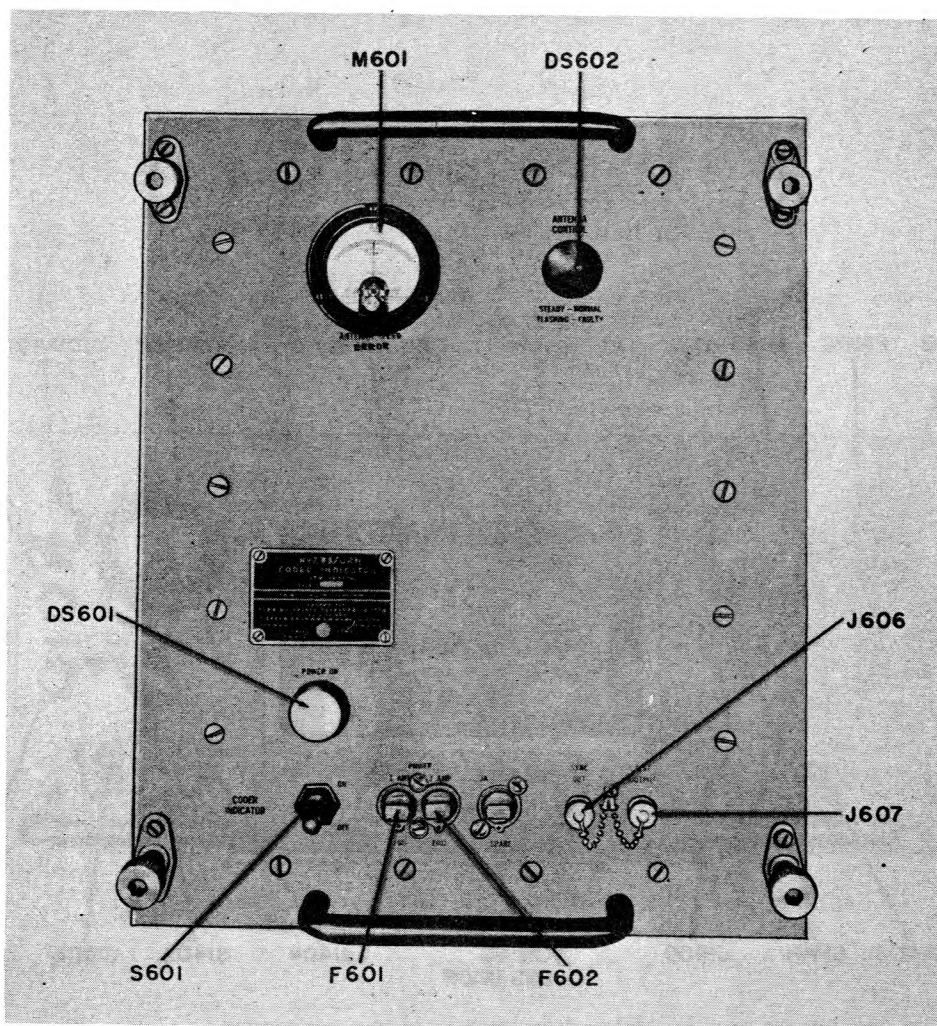

Figure 3-2. Coder-Indicator KY-382/GRN-9D, Front Panel View
(3) CODER-INDICATOR KY-382/GRN-9D. — Coder-Indicator KY-382/GRN-9D (figure 3-2) receives distance information and noise pulses from the radio receiver. It also receives 15-cps trigger pulses and 135-cps trigger pulses from the reference pulse-generator in the antenna. The 15-cps trigger, the 135-cps trigger, and the pulses from the radio receiver are coded and mixed in proper sequence by the coder-indicator into pulses that are applied to the frequency multiplier-oscillator of the transmitter. To prevent the transponder from responding to its own transmitted output, the coder-indicator blanks the radio receiver while a pulse pair is being transmitted. The coder-indicator also generates an identification call signal which is applied to the frequency multiplier-oscillator.
(b) Coder-Indicator KY-382/GRN-9D (figure 3-2).
CODER-INDICATOR KY-382 GRN-9D (figure 3-2)